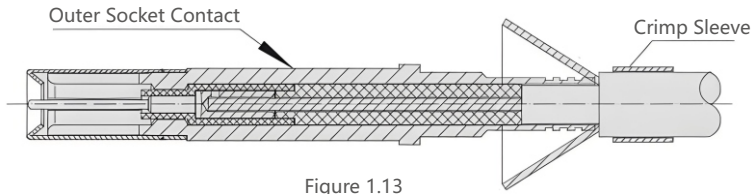

Figure 1.13
⑥As shown in Figure 1.13, install the outer contact onto the central contact, under the cable shielding layer, until the central contact and the insulator are completely tight against each other.